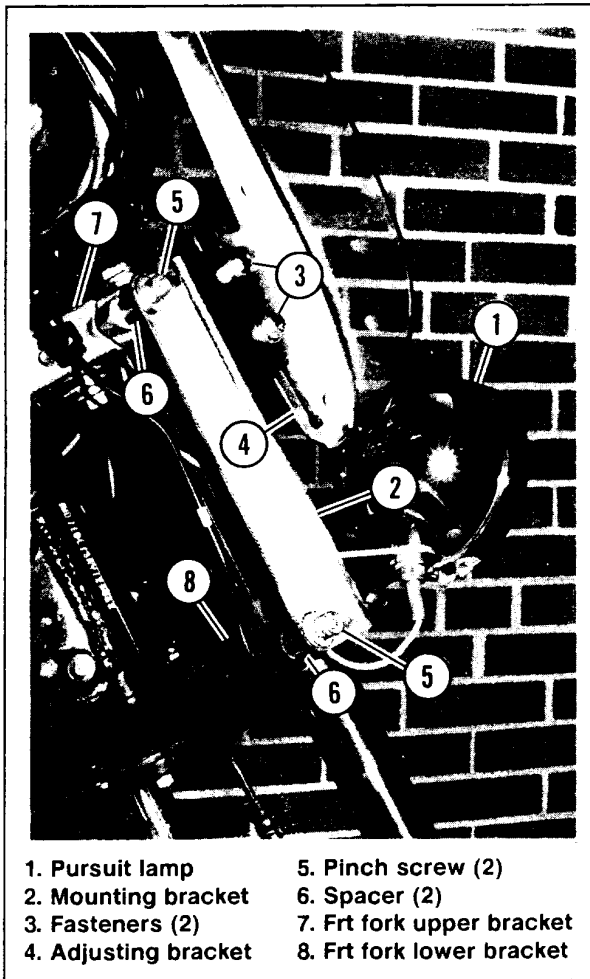

Figure 2. FXRP-Windshield -- Original Windshield Mounting Hardware and Front Fork Pinch Screws -- Right Side
4. See Figure 2. Remove right pursuit lamp (1) from original windshield right mounting bracket (2); save fasteners.
9. See Figure 2. Remove original hex socket head pinch screw (5), washer, original windshield right mounting bracket (2), and spacer (6) from front fork lower bracket (8); discard screw, washer, mounting bracket, and spacer.